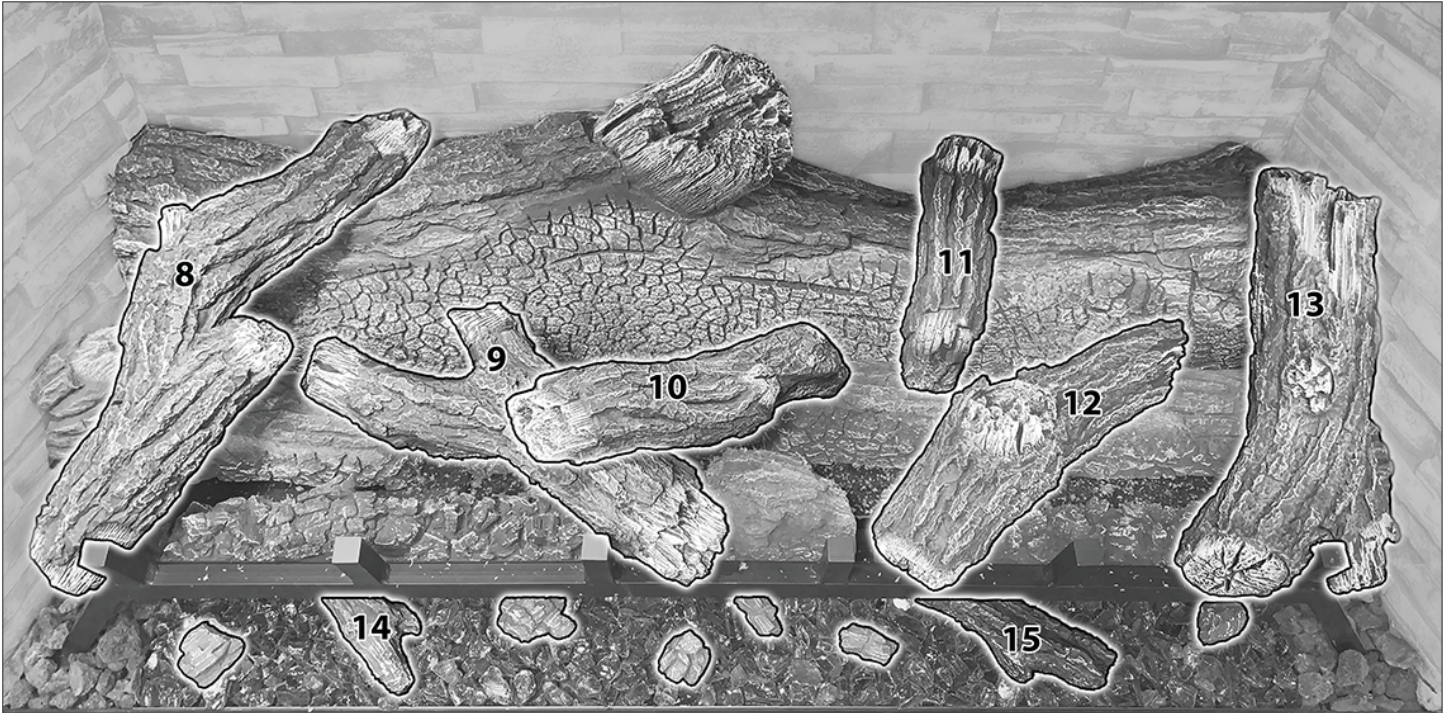

Figure 8.10, Top Logs
- Align the hole in the bottom of log 8 with the stud on the left hand side of log 1 and set into position, as shown in Figure 8.10 on the following page.
- Align log 9 with the notches in log 2 and 3 (Figure 8.8). Place as shown in Figure 8.10.
- Align log 10 with the notches on logs 9 and log 6 (Figure 8.9), and place as shown in Figure 8.10.
- Align log 11 with the notch in the middle right of log 1 (Figure 8.8), and place as shown in Figure 8.10.
- Align log 12 with the notch on log 7 (Figure 8.8), as shown in Figure 8.10.
- Align log 13 with the notch on log 1 (Figure 8.8), and place on logs 7 and 1, as shown in Figure 8.10.